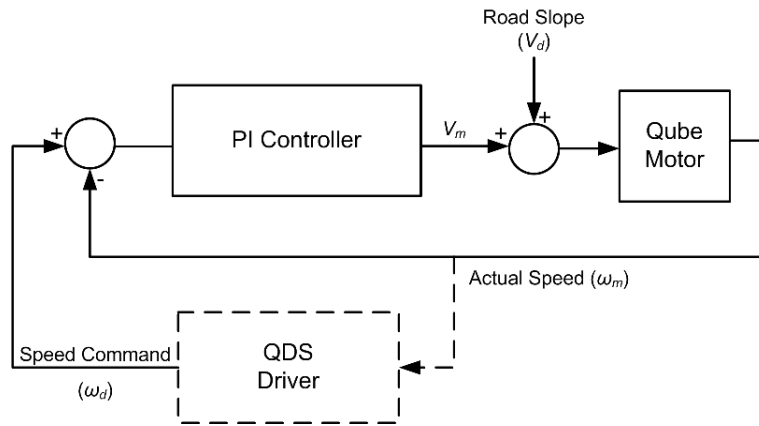

Figure 1.3: QDS speed controller
For this laboratory, you will use the QDS in conjunction with a QUBE-Servo 2 to develop a Proportional-Integral (PI) speed controller to regulate the speed of the simulated vehicle. This exercise is analogous to developing an ETC for an electric vehicle, shown in Figure 1.3. In this case, the disturbance to the speed of the vehicle is the slope of the road, which is converted into a voltage and added to the control command. The controller that you will design takes the actual speed of the QUBE-Servo 2 motor as the derivative of the encoder measurements, and the commanded speed from the internal driver controller in the QDS. The PI controller then outputs the motor voltage V_m , which is added to the slope of the road and sent to the QUBE-Servo 2. The slope of the road is provided by the sensors inside the QDS.